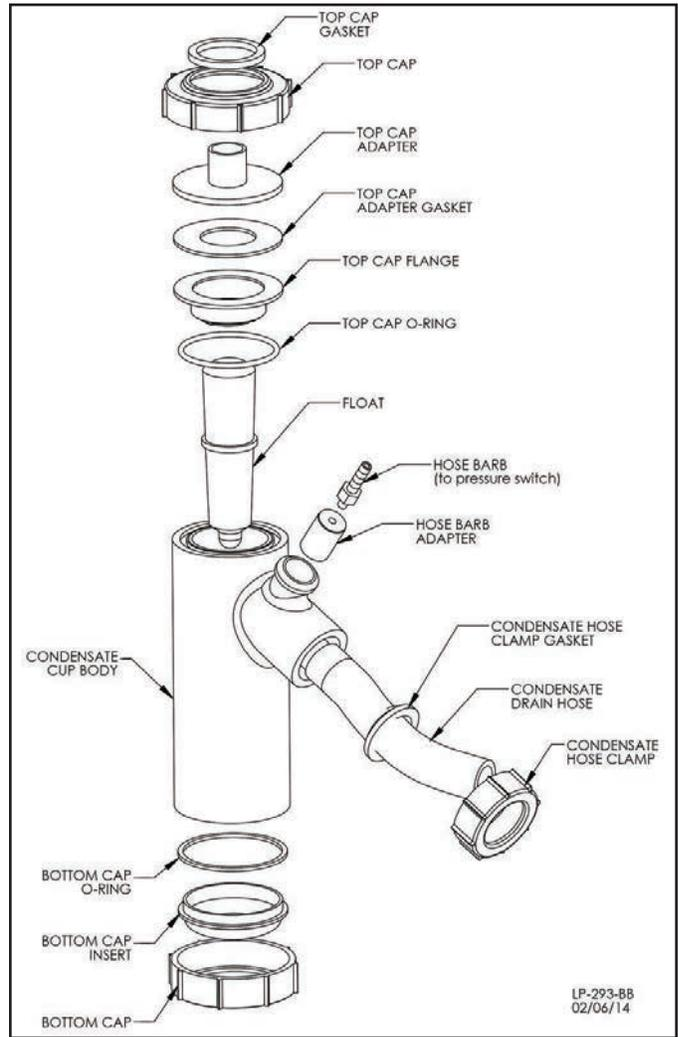

Figure 33 - Condensate Detail
5. When the condensate trap is sufficiently clean, reinstall the bottom cap on the trap. **NOTE:** Ensure all parts shown in Figure 33, Condensate Detail, are installed with the condensate trap. If any parts are missing, **DO NOT** reinstall the trap. Replace the entire assembly.